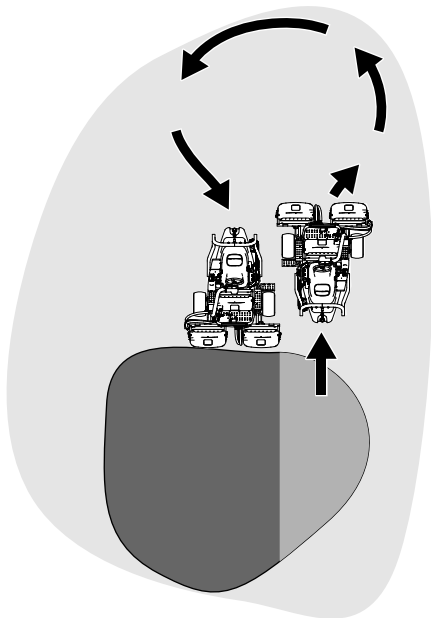

Figure 25
6. To cut down on operating time and to ease the lineup for the next pass, momentarily turn the machine in the opposite direction, then turn it in the direction of the uncut portion. This movement is a tear-shaped turn (Figure 25), which quickly lines the machine up for your next pass.